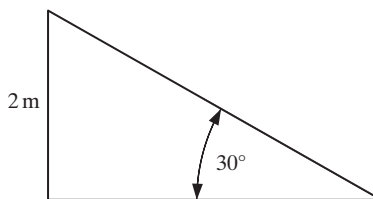

Figure 3.54
4. Maintenance needs to get a ramp up to a height of 2 meters, and company regulations do not allow a ramp to be used with an angle greater than 30° . Create a VI to determine the required length of the ramp (pictured in Figure 3.54).